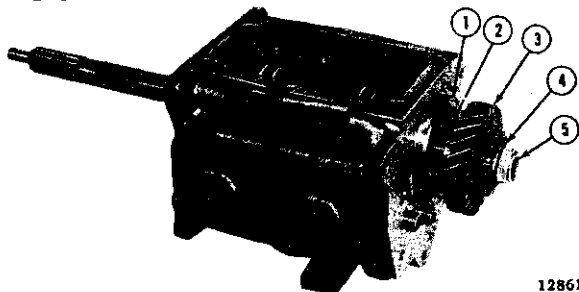

FIG. J-15—TRANSFER CASE DRIVE GEAR ASSEMBLY
- c. Remove nut and flat washer securing transfer case drive gear on the mainshaft. Remove transfer case drive gear, adapter, and spacer. Refer to Fig. J-15.